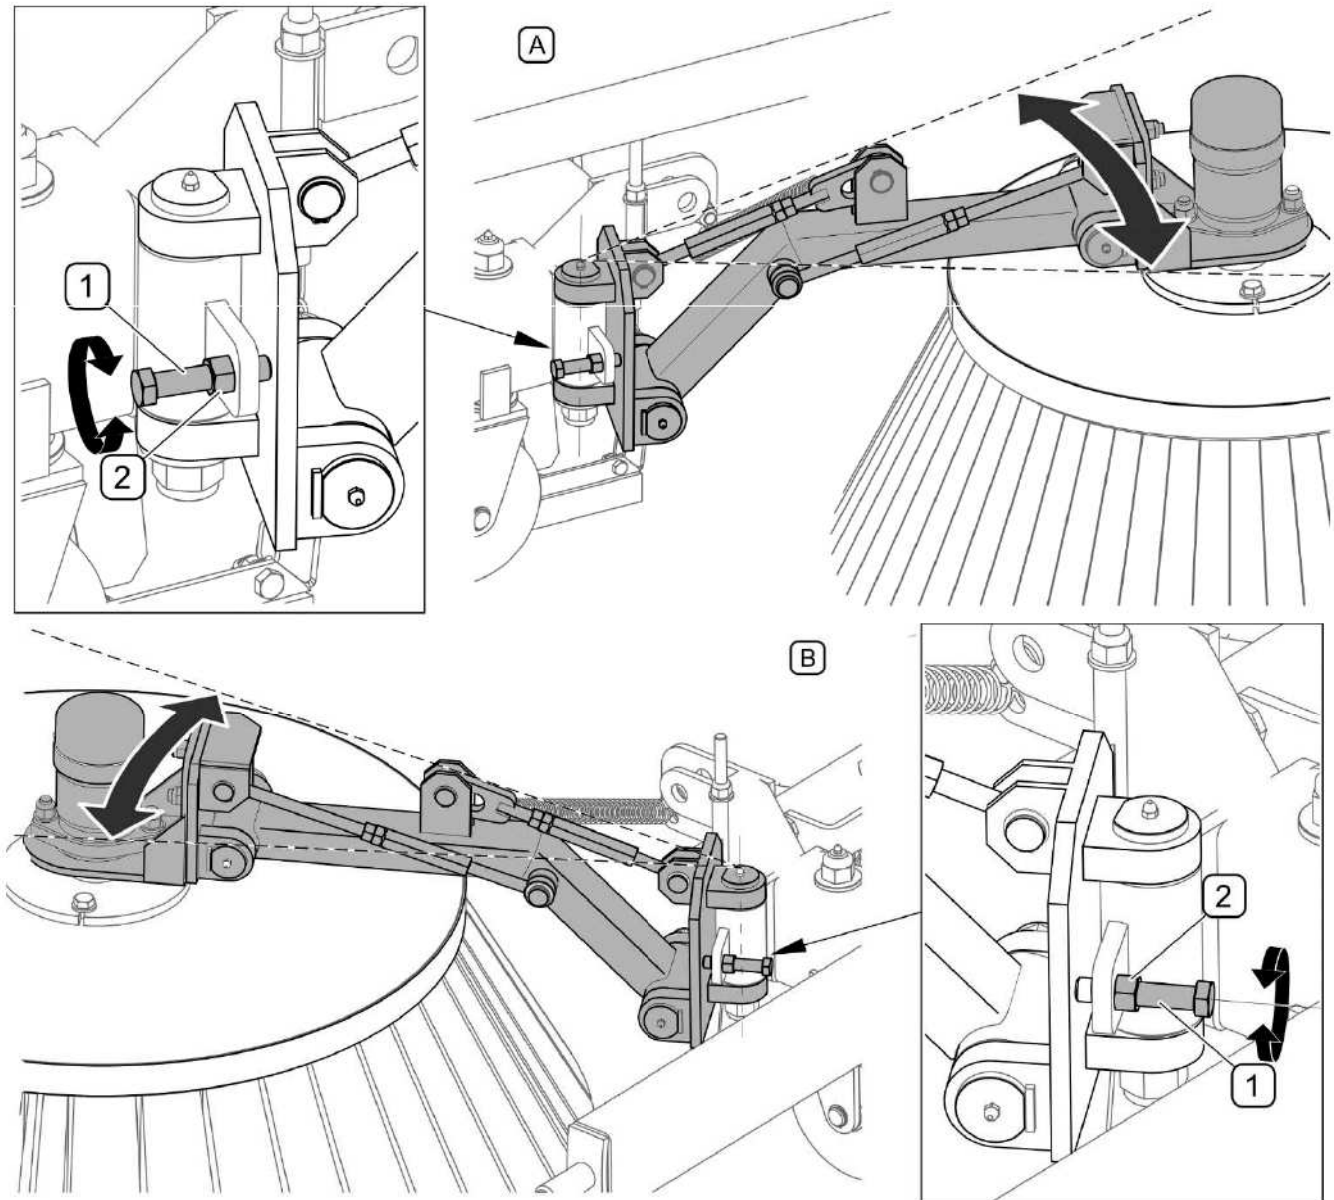

FIG. 5.9 Adjustment of brush side tipping
- 4) Adjustment of brush side tipping (FIG. 5.9)
During sweeper operation, right (A) and left (B) brush moves to the outside of the machine (FIG. 5.9). When the sweep unit is lifted, tensioning springs move brush arms back towards the machine centre. Range of horizontal movement of brushes is limited with bolts (2). Right brush (A) and left brush (B) can be set freely depending on a required sweeping width.
In order to adjust brush side tipping (FIG. 5.9):